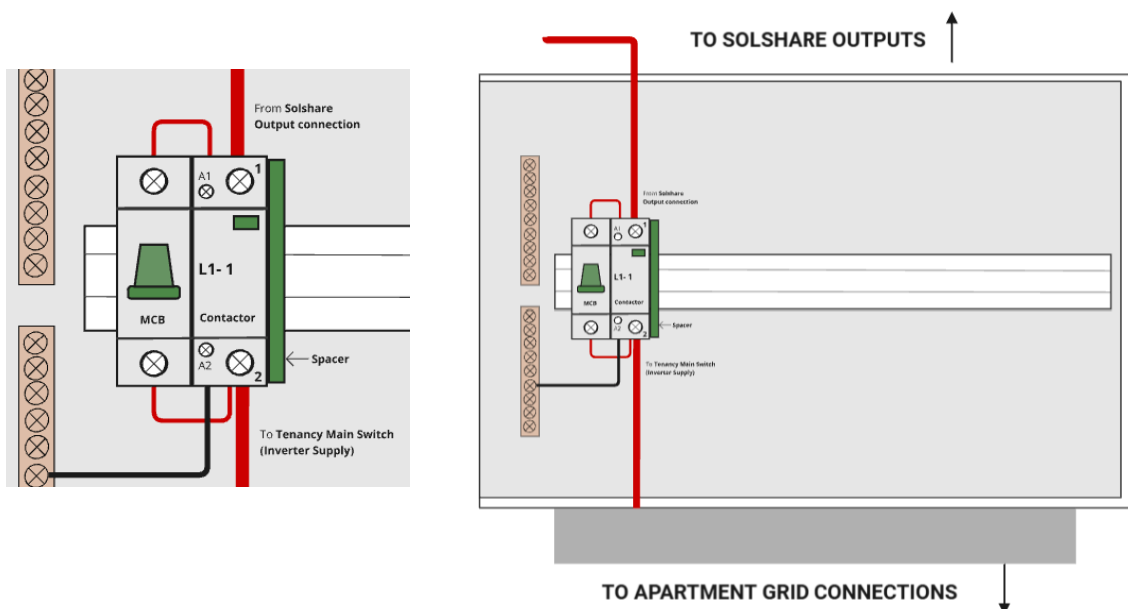
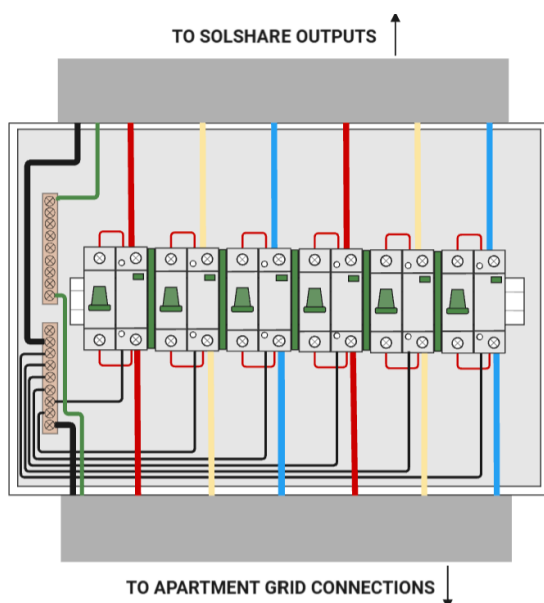

Figure 3: Contactor coil wiring
Figure 5: Full isolation box internal wiring
2. Connect the contactor's control coil terminal, labelled "A1", to the contactor's grid input terminal, labelled "2," by utilising the 1A MCB provided as part of the SolShare Isolation Kit, as shown in Figure 3.
3. Connect the coil's (A2) neutral connection to the neutral bar in the isolation box using appropriately sized cables, as shown in Figure 3. Ensure the neutral bar in the enclosure is linked back to the main neutral bar at the main switchboard (MSB) that has the Multiple Earthed Neutral (MEN) link.
4. The A1 and A2 connections will act as the controls for engaging the contactors, so ensure the cables are terminated correctly into the terminals, as per Figure 3.
1. For each SolShare output (i.e. L1-1, L2-1, L3-1, L2-5, L3-5), connect the cables to the contactor terminals labelled "1" on the respective contactors as shown in Figure 3 and Figure 5.